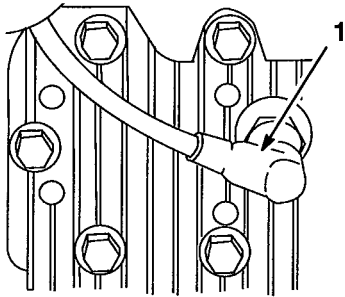

Figure 36
3. Remove spark plug (Fig. 36) and spin engine rapidly using starter to blow excess oil from the cylinder. Clean spark plug or replace if cracked, broken or electrodes are worn.
8. Reconnect spark plug wire (Fig. 36).